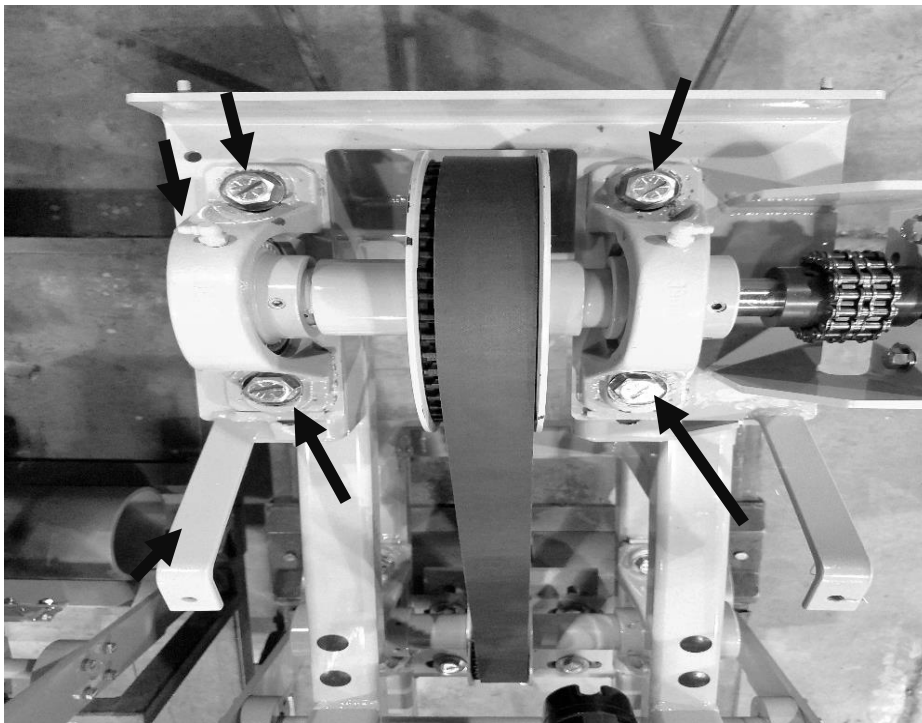

Figure 2—To tension the right cutter head drive belt, loosen the four Fasteners shown.
1. To tension the belt on the right cutter head, loosen the four fasteners that secure the two pillow-block bearings to the top plate and head frame. See **Figure 2**.
2. Slide the bearings and top plate toward the front of the head to tighten the belt. Tighten the belt until there is approximately ½ inch of deflection in the center of the top belt run using moderate finger pressure. Make sure the bearings and top plate are positioned squarely on the head frame, then securely tighten the four fasteners (**Figure 2**).